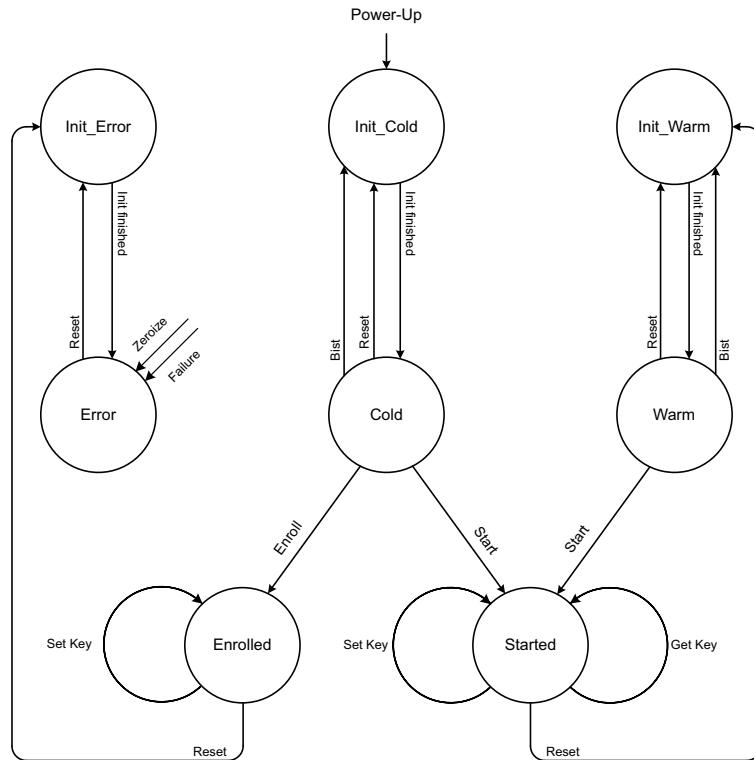

Fig 175. Possible flows, states, and actions
After power-up or reset the PUF controller starts in one of the three Init states, depending on its previous state. See Figure 175. It first initializes itself (indicated by BUSY = 1).
3. After the operation is finished the PUF de-asserts BUSY and asserts SUCCESS, signaling that the Start operation has completed successfully. When ERROR is asserted, instead of SUCCESS, the provided activation code does not match the device. In this case the PUF goes to the Error state. See Figure 175 and Section 48.11.7.13 "Error response".
3. After the operation is finished BUSY is de-asserted and SUCCESS is asserted. It indicates that the Get Key operation has completed successfully. If ERROR is asserted instead of SUCCESS, the provided key code does not match the device. In this case no key is provided and the PUF controller goes to the Error state. See Figure 175 and Section 48.11.7.13 “Error response”.